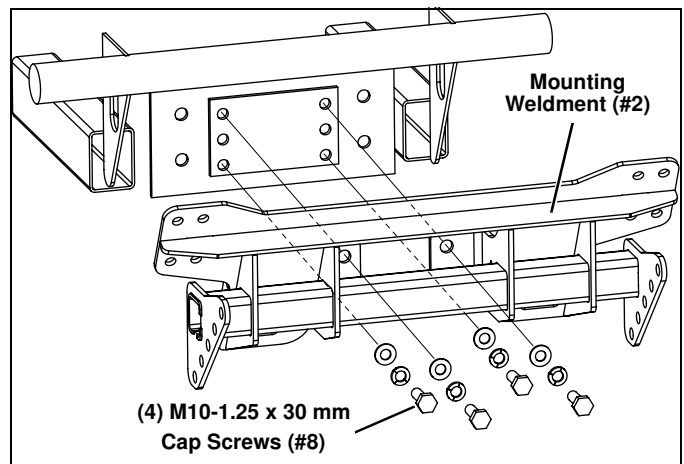

Figure 4
3. Align the rear four holes of the Mounting Weldment (#2) to the holes of the frame where the receiver hitch hardware was attached. Secure using (4) 3/8" Plain Washers (#6), (4) M10 Lock Washers (#7), and (4) M10-1.25 x 30 mm Cap Screws (#8). (See Figure 4.)